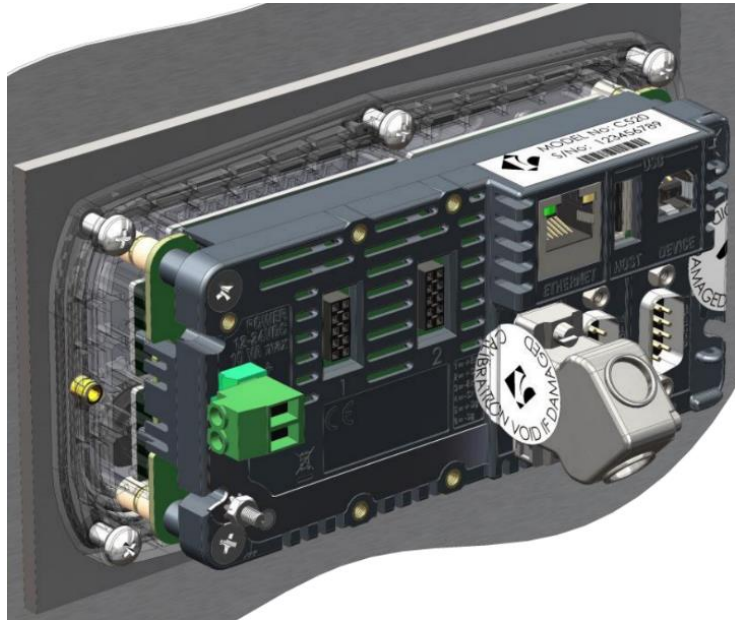

Figure 2: Sealing DB9 loadcell connection.
- Place a sticker across the load cell connector as shown in Figure 2